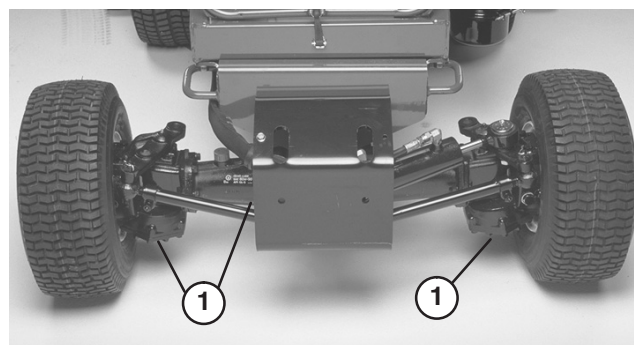

Figure 75
2. Clean area around the drain plugs (Fig. 75).